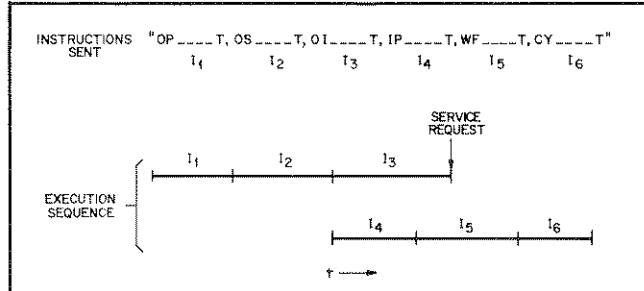

Figure 5-3. Interrupt Instruction in Serial Mode
1. The II and OI interrupt instructions are started in sequence but once they start, they run in parallel with the remaining instructions in the sequence. Figure 5-3 illustrates the execution of six instructions in the serial mode where the third instruction (I_3) in the sequence is an OI. Notice that I_3 is started sequentially; however as soon as it starts, it allows instruction I_4 to start even though I_3 has not completed. Note also that when any card in the OI instruction (I_3) completes, service request is generated. The OI and II instructions are described in detail in paragraphs 5-187 through 5-220.